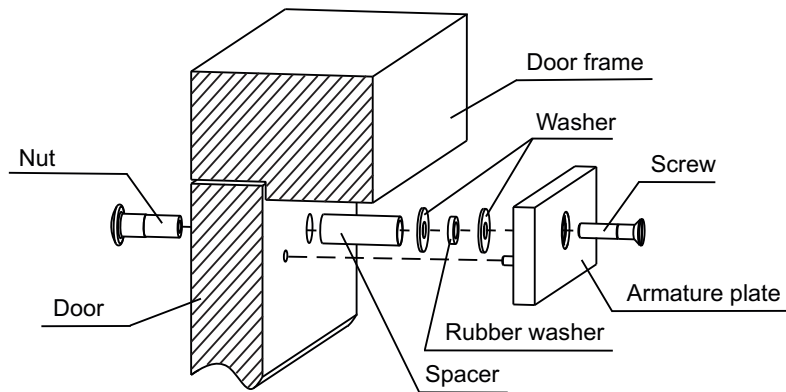

Figure 1 – Armature plate mounting
2. Fix the armature plate on the inner door-side using mounting kit (Figure 1).